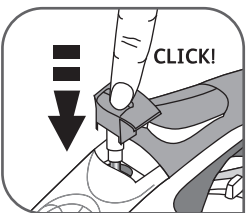

Fig. 21
- Reposition the anti-scale rod; push the valve until it clicks – fig.21.
- At the end of this operation, put the anti-scale valve back in place; push down until it clicks – fig.21.